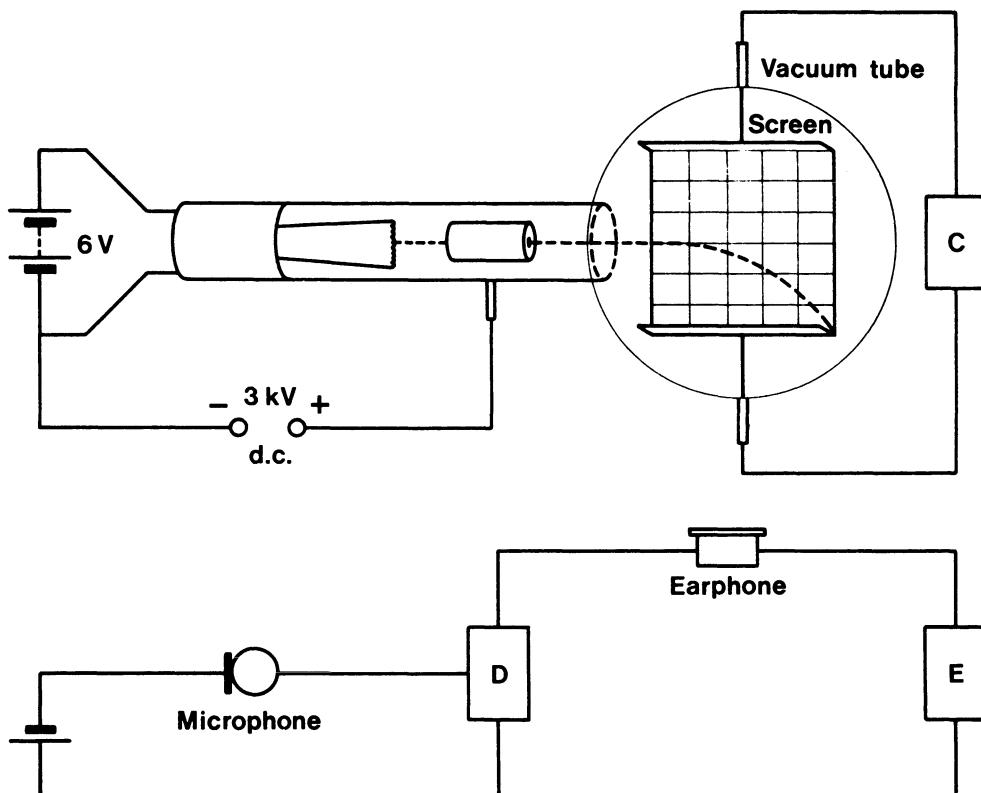

FIG. 3.69 (continued)
52. Fig. 3.69 shows experiments in which important components have been omitted, and are indicated by capital letters.